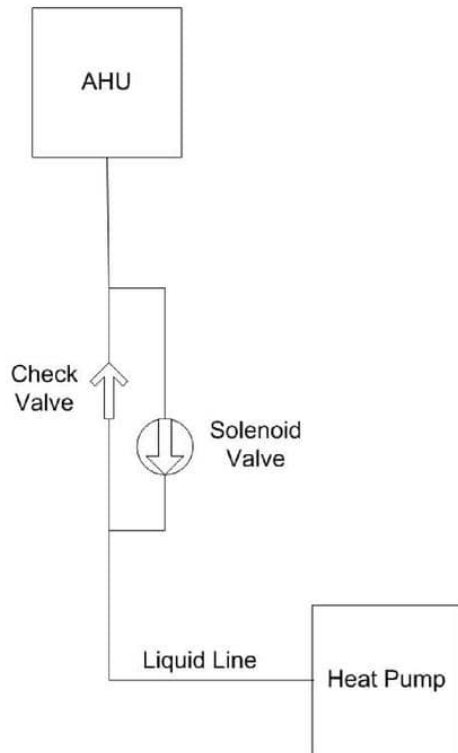

FIGURE 4: Heat Pump Solenoid/Check Valve Installation Arrangement
- **Heat Pumps with Orifice in OD Coil** - Require **check valve and solenoid valve** placed in liquid line to prevent off cycle migration, refer to Figure 4 for proper placement.